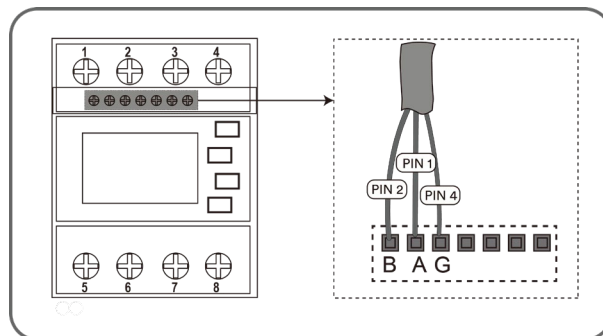

Fig. 38. RS485 cable connect to the Smart-Meter
1. Strip the insulation of the other side from the network cable and screw copper wire to the corresponding terminal of the Smart-Meter. [ PH0  0.7Nm]. (See Fig. 38).